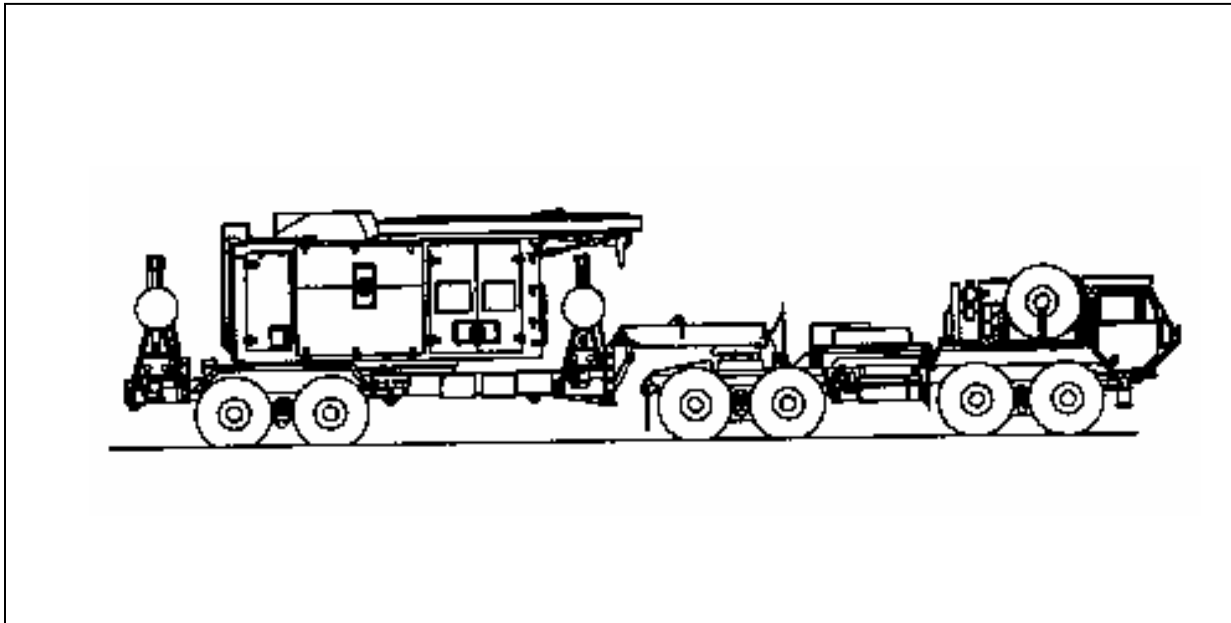

Figure 2-8. March-ordered RS
**ILLUSTRATIONS:** Figure 2-8.
- (1) Radar set.
- (2) Telephone set, sound-powered TA-1/PT.
- (3) Screw driver, flat tip, 3/8 inches wide, 8 inches long.
- (4) EPP, ECS, and AMG.
- (5) Individual weapons, NBC protective clothing, and equipment.
(1) Show the crew members how the RS should be march-ordered using a diagram, Figure 2-8, a sand table, or a simple sketch in the dirt.
(2) Tell each crew member what their duties are in the drill.
(3) Read the performance measures of the drill to the crew members.
(4) Have each crew member explain their performance measures to ensure that they understand them.